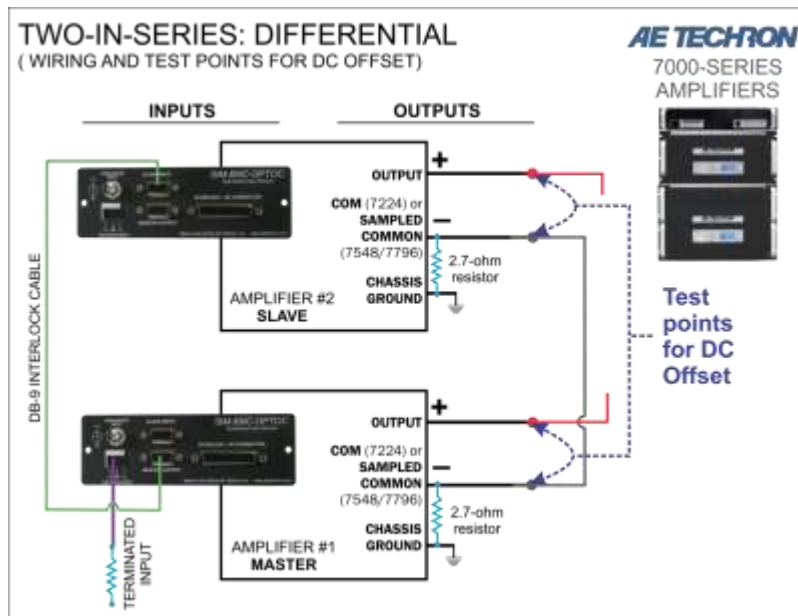

Figure 3.8 – Verifying DC Offset
6. Using a digital voltmeter set to DC, measure across each amplifier's back-panel output connector terminals (OUTPUT to COM or SAMPLED COMMON) to verify that the DC offset of each amplifier is less than 10 mVdc. See **Figure 3.8**. NOTE: If any amplifier's DC offset is greater than 10 mVdc, the amplifier may require servicing. Contact AE Techron Technical Support.